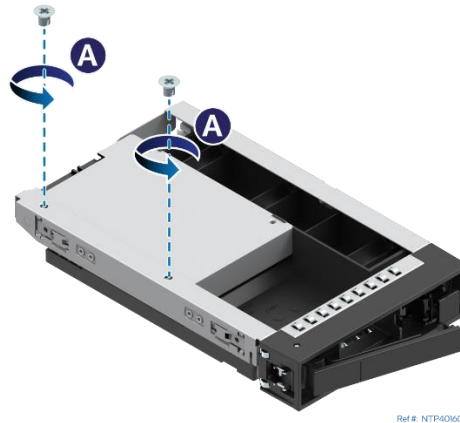

Figure 69. 2.5" Drive Mounting Bracket Removal from Drive Carrier (Step 1)
1. Remove the screws securing the 2.5" drive assembly to the drive carrier (see Figure 69)